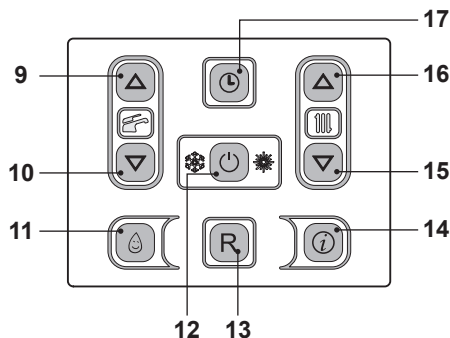
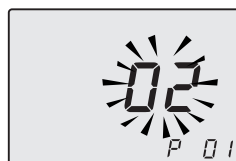

Fig. 7.17
Fig. 7.18
- Enter in "programming mode" by pressing keys 12 - 15 - 16 (Fig. 7.17) for 10 seconds at the same time until the letters **P01** are displayed on the LCD display, indicating that "parameter 01, has been activated (Fig. 7.18).
- By pressing key 12 (Fig. 7.17) confirmation of the inserted value is obtained.
- Press keys 15 or 16 (Fig. 7.17) to exit without changing the value Fig. 7.19)
However, if the ambient temperature is not comfortable, the flow temperature of the heating plant can be increased or reduced by $\pm 15^{\circ}\text{C}$ by acting on keys 15 (reduce) and 16 (increase) (Fig. 7.17).